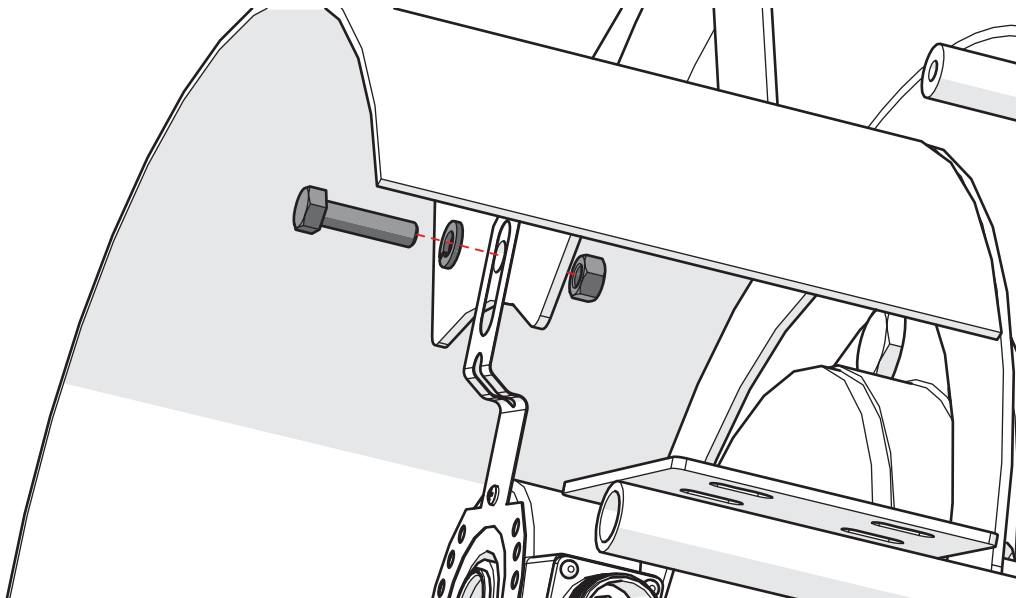

Figure 7: Attach Encoder to Encoder Guard (cover guard partially hidden for clarity)
10. Secure encoder tether with a bolt to the tether support inside the motor encoder guard using a bolt, lock washer, and nut supplied in the kit. See Figure 7.